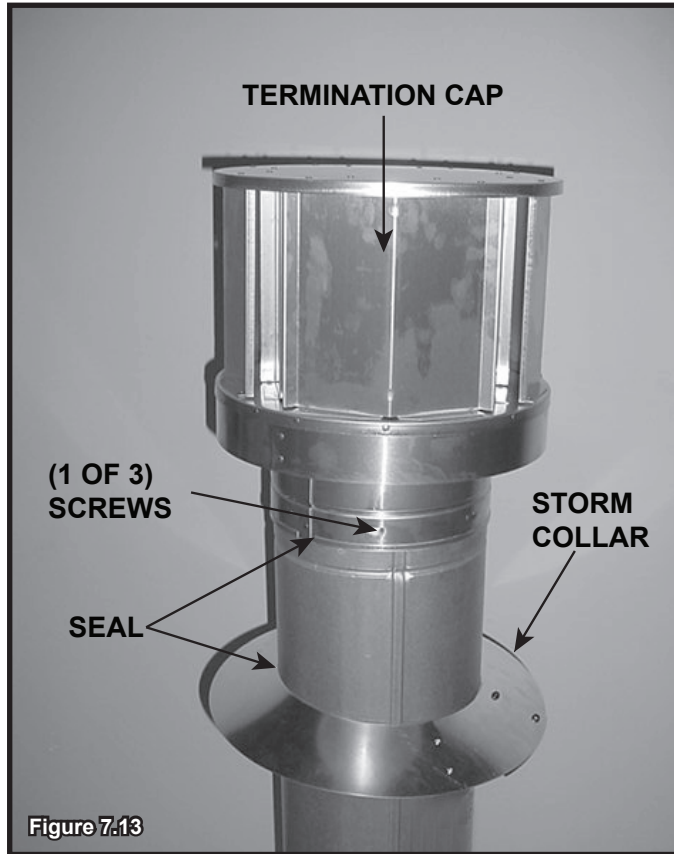

Figure 7.13
- Slide the roof flashing over the pipe sections extending through the roof as shown in Figure 7.13.
- Seal around the top of the storm collar. See Figure 7.13.
- Secure the cap by driving three self-tapping screws (supplied) through the pilot holes in the outer collar of the cap into the outer flue of the pipe. See Figure 7.13.